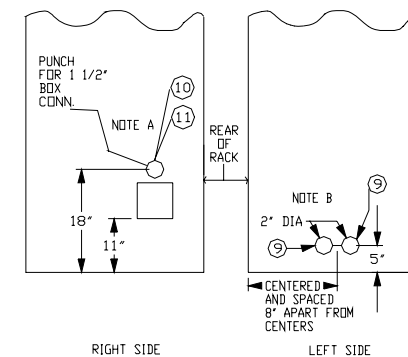

FIG 2. EMCOR RACK SIDE DETAILS
- B. CUT 2 INCH HOLE FOR SIGNAL AND/OR POWER CORD AND LINE WITH GROMMET MATERIAL JAW WITH FIG 2.